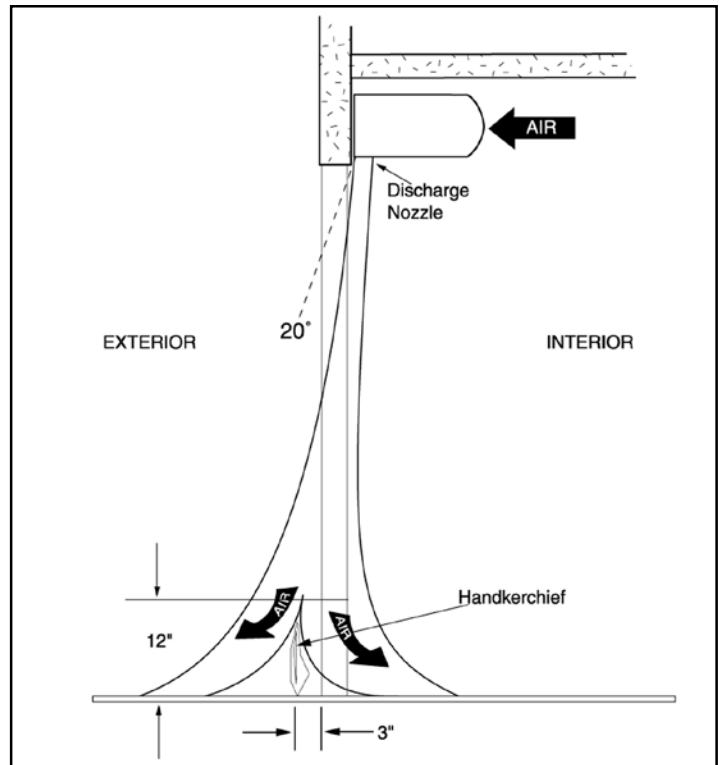

FIGURE 9 - Airflow Adjustment
2. Find the air stream split location. Hold a handkerchief by its corners, approximately 12” above the floor. Gently move the handkerchief back and forth in the doorway. Make sure the air is being directed to both the inside and the outside. **See Figure 9.** The split location is indicated where the handkerchief is vertical with minimal or no fluttering.